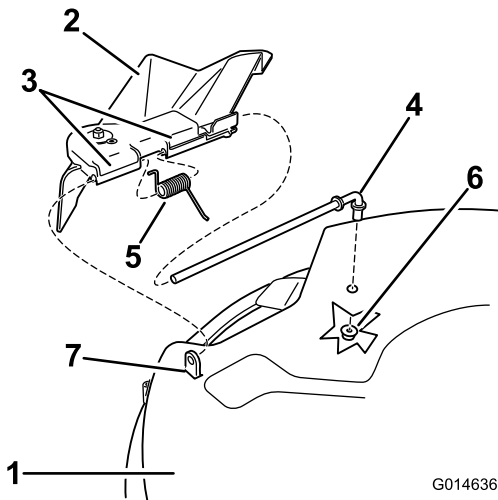

Figure 55
9. Secure rear end of rod into the mower with a nut (3/8 inch) as shown in Figure 55.
1. Locate items shown in Figure 55.
2. Remove the nut (3/8 inch) from the rod under the mower (Figure 55).
3. Slide the rod out of the short stand-off, spring, and grass deflector (Figure 55).
5. Replace the grass deflector (Figure 55).
7. Place the spring on the rod, with end wires down, and between the grass deflector brackets. Slide rod through second grass deflector bracket (Figure 55).